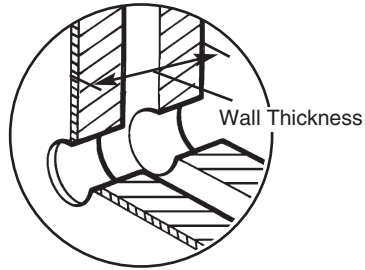

Fig. 69
3. Measure the wall thickness and from this dimension subtract 10mm (3/8 in) (Fig. 69).